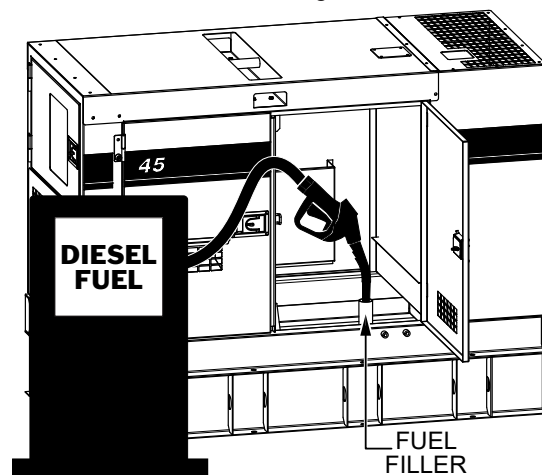

Figure 33. Fueling The Generator
2. Open the enclosure door, remove the fuel cap, and fill the fuel tank as shown in Figure 33.